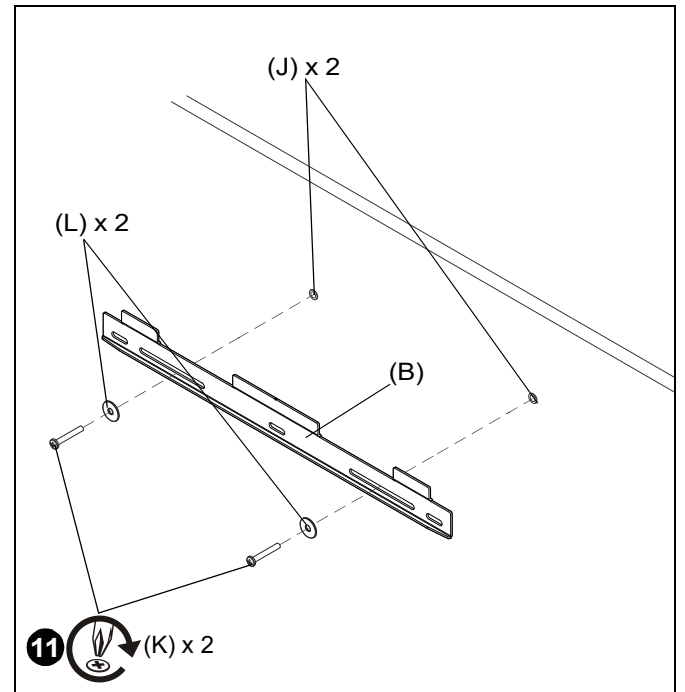

Figure 17
9. Place top bracket (B) over anchors and align mounting holes on mount with holes in anchors. (See Figure 17)
10. Install a toggler anchor (J) into each pilot hole using a hammer, making sure that the anchor is flush with the wall. (See Figure 17)
11. Install two 1/4-20 x 2 1/2" Phillips pan machine screws (K) through two 1/4" washers (L), holes on top bracket (B) and into toggler anchors (J). (See Figure 17)